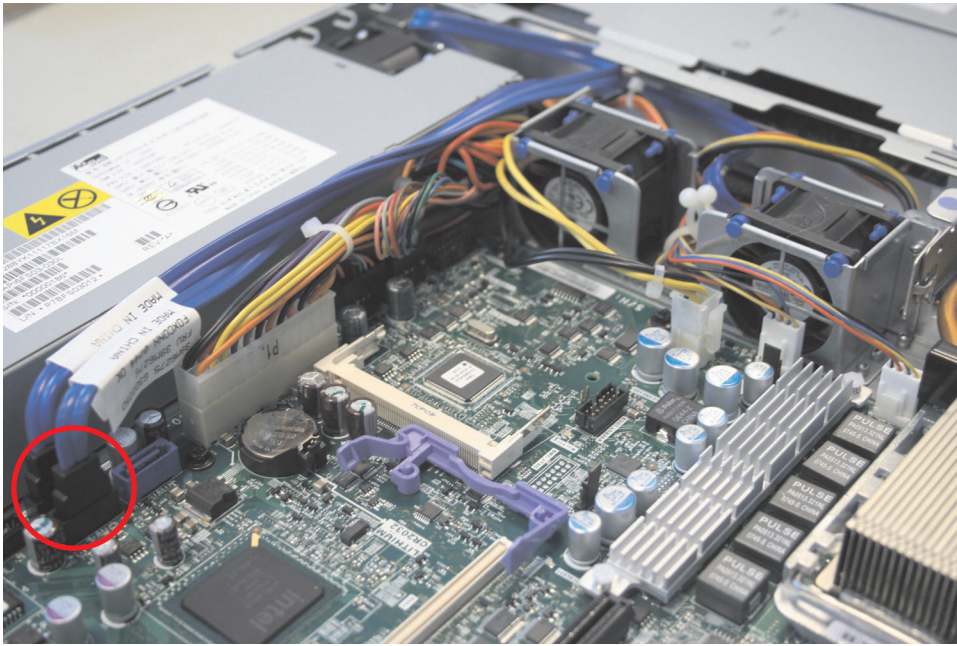

Figure 119. SAN Volume Controller 2145-8A4 SATA cable connectors
8. Notice where the two SATA cables that are connected to the back plate are connected to the system board, as shown in Figure 119 on page 118. Then disconnect the two SATA cables from the system